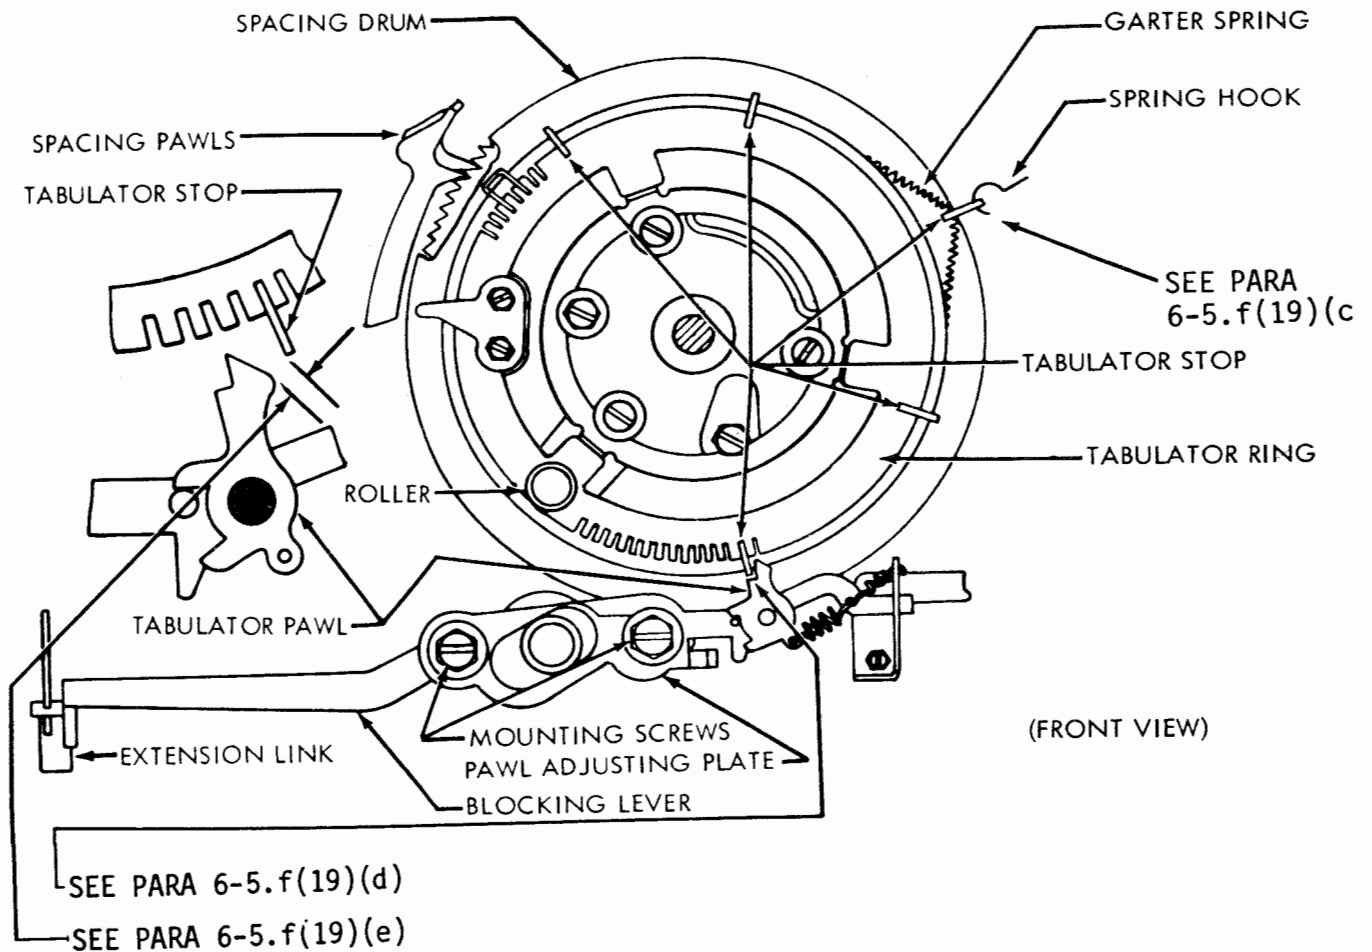

Figure 6-185. Tabulator Pawl (Preliminary)
- (a) Refer to figure 6-185.
(b) Disengage all clutches so that front spacing feed pawl is in lower position as shown in figure 6-185.